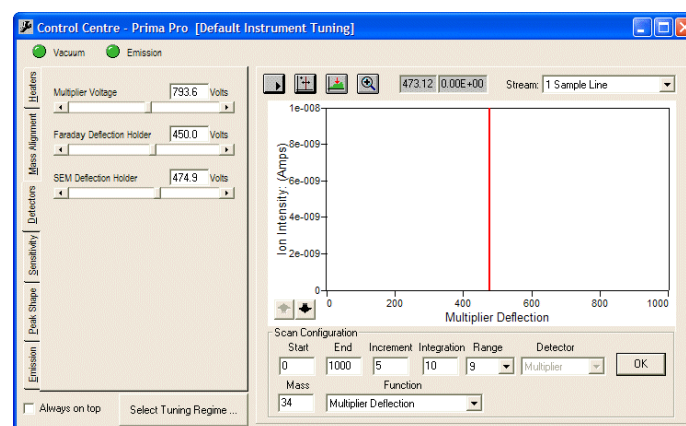

Figure A-8. Multiplier Calibration
1. From the Instrument Control Panel, select the Detectors tab and Multiplier Calibration from the drop down function box (Figure A-8).